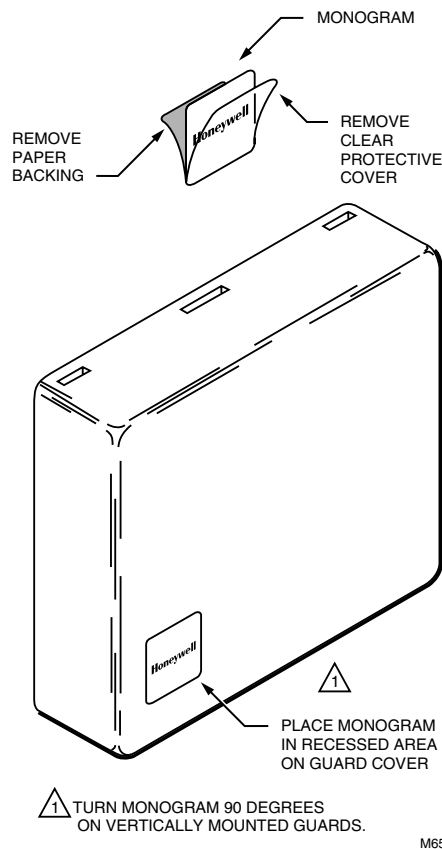

Fig. 9. Apply monogram to thermostat guard (TG510, TG511, TG512 shown).
- 7 Remove the paper backing and clear protective cover from the included monogram and place the monogram in the recessed area on the guard cover. See Fig. 9.
- 11 Remove the paper backing and clear protective cover from the included monogram and place the monogram in the recessed area on the guard cover. See Fig. 9.
- ⓬ Remove the paper backing and clear protective cover from the included monogram and place the monogram in the recessed area on the guard cover. See Fig. 9.
- ❿ Remove the paper backing and clear protective cover from the included monogram and place the monogram in the recessed area on the guard cover. See Fig. 9.